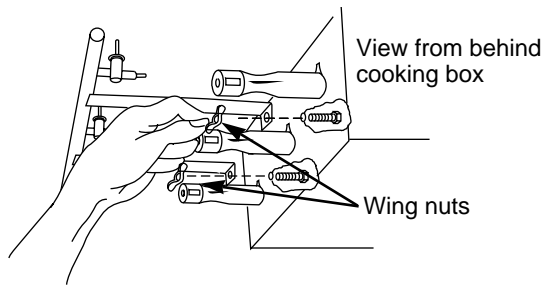

Figure 22
- e) Remove the manifold bracket and unscrew the two wing nuts that hold the manifold to the cooking box. Pull the manifold and valve assembly out of the burners and carefully set it down. Figure 22.